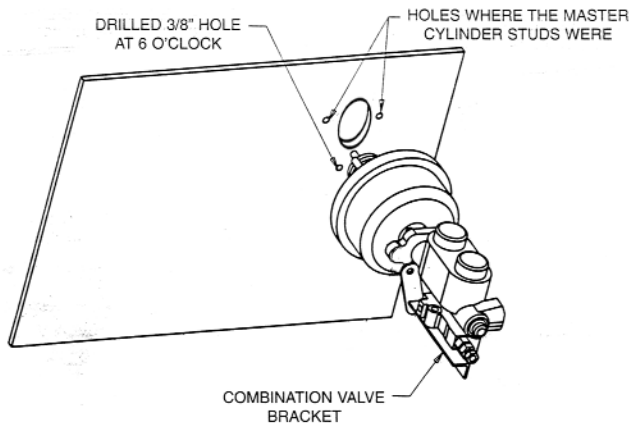

Figure 2
2. Remove the existing master cylinder studs on the firewall by bending them up and down with vise grips until the weld breaks. Dimple the firewall at 6 o'clock and drill a 3/8" hole for the third mounting hole (see Figure 2). If you are installing a manual master cylinder, use the two studs on the firewall to mount the master cylinder. Use the same manual brake push rod.